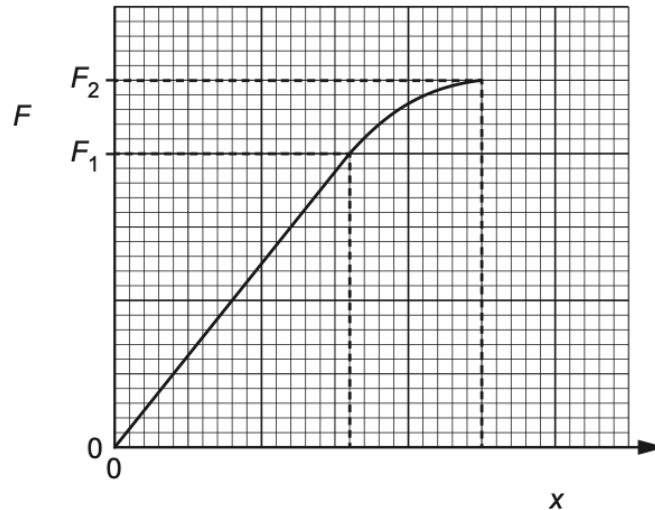

Fig. 4.2
- (iii) Another student repeats the original experiment in (b)(i), increasing the force beyond  $F_1$  to a new maximum force  $F_2$ . The new graph obtained is shown in Fig. 4.2.
- On Fig. 4.2, shade an area that represents the work done to extend the wire when the force is increased from  $F_1$  to  $F_2$ . [1]